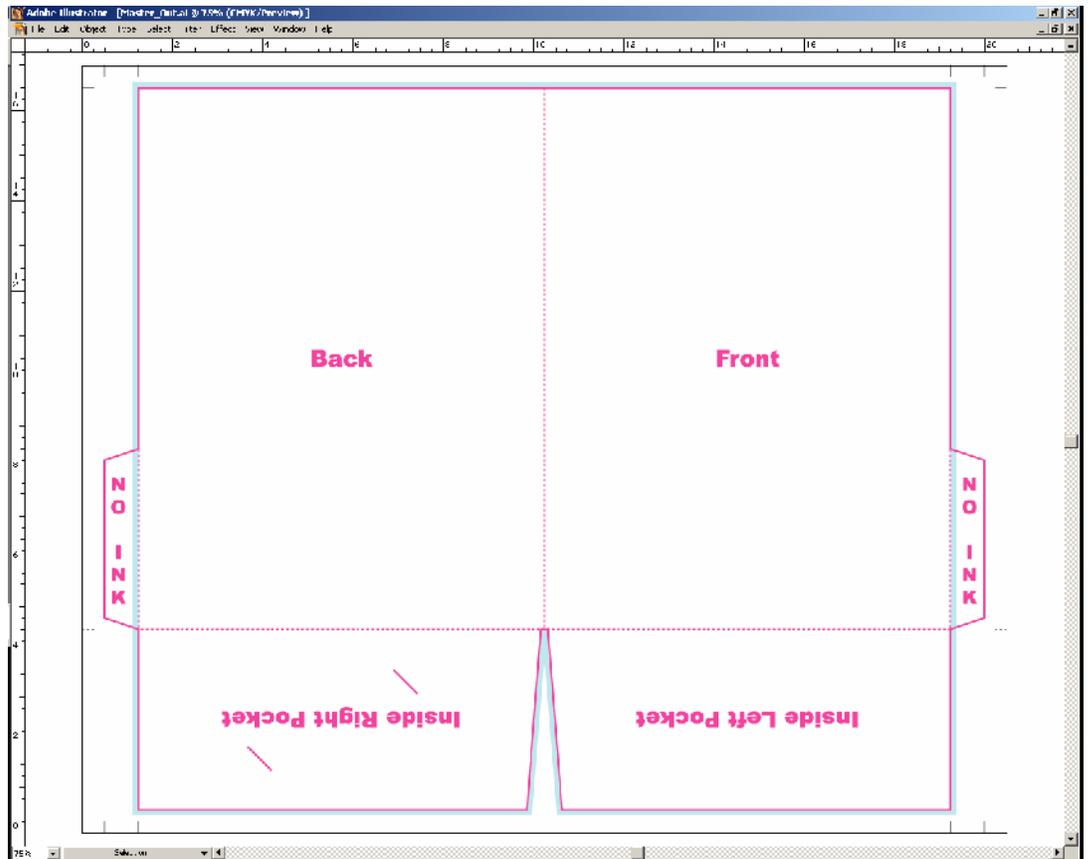

Figure 3
- After following the previous instructions you should have a screen that looks figure 3 at right.